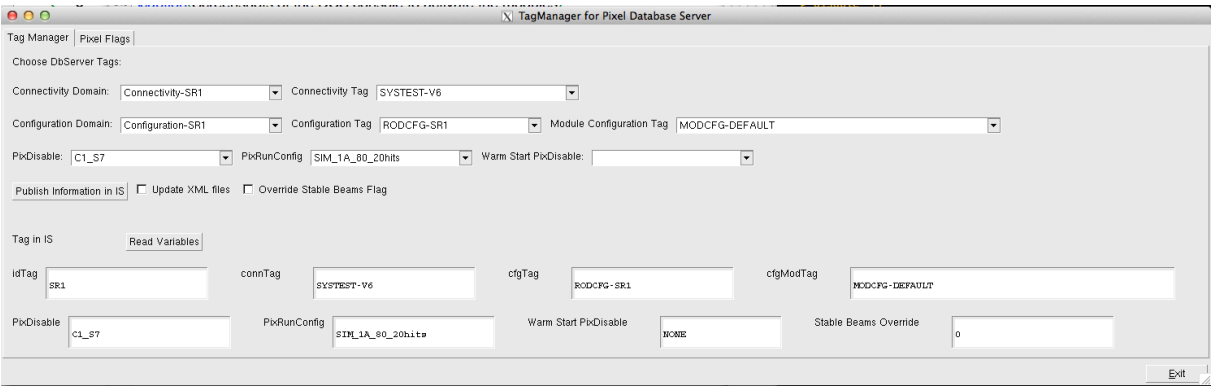

Figure 1.4: TagManager GUI
The configurations are stored in a database and the only thing needed is to publish to the Information Service (IS) the right tags that will point to the actual configurations that the Pixel Infrastructure will pick up. To do that it is necessary to use the Tag Manager application. You can start it just typing `TagManager` (Remember to compile the PixLib examples). You need to select the right tags from the drop-down menus, see Fig. 1.4. The following options are valid for SR1 1: